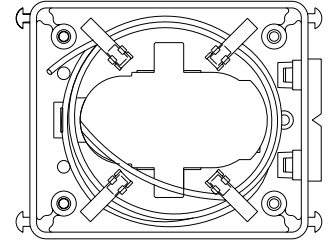

Figure 2
2. Position cable from raceway into first clip opposite of cable entrance. Loop cable to each clip while maintaining 1 1/4" [32mm] bend radius. See Figure 2.